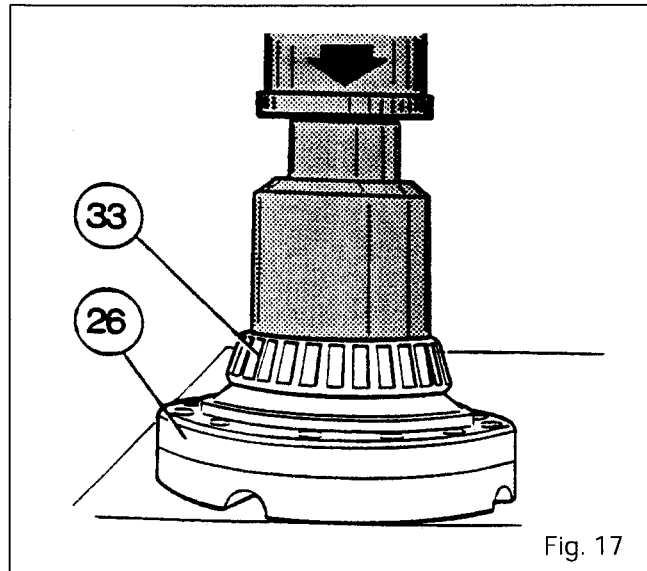

Fig. 17
58. Fit new O-rings (15) and (19). Position the piston with the coupler and then insert it by striking it around the edge with a plastic mallet.
59. Position the spring (17) and the washer (20), with the shoulder of the washer facing the spring. Tighten the assembly using tool MF471 until the washer (21) slides freely in the groove on the housing.
61. If the bearing cone (33) was removed, fit it on the half housing (26) using a press or a suitable fixture (Fig. 17).
62. Fit the other bearing cone (33) on the cover (24), if it was removed.
63. Assemble the half housing (25) in the cover (24) (with the coupler teeth) in accordance with the markings made before disassembly.
64. Position the washer (35) on the sun gear (11), and place the assembly in the half housing (25), engaging the tab on the washer in one of the holes in the half housing.